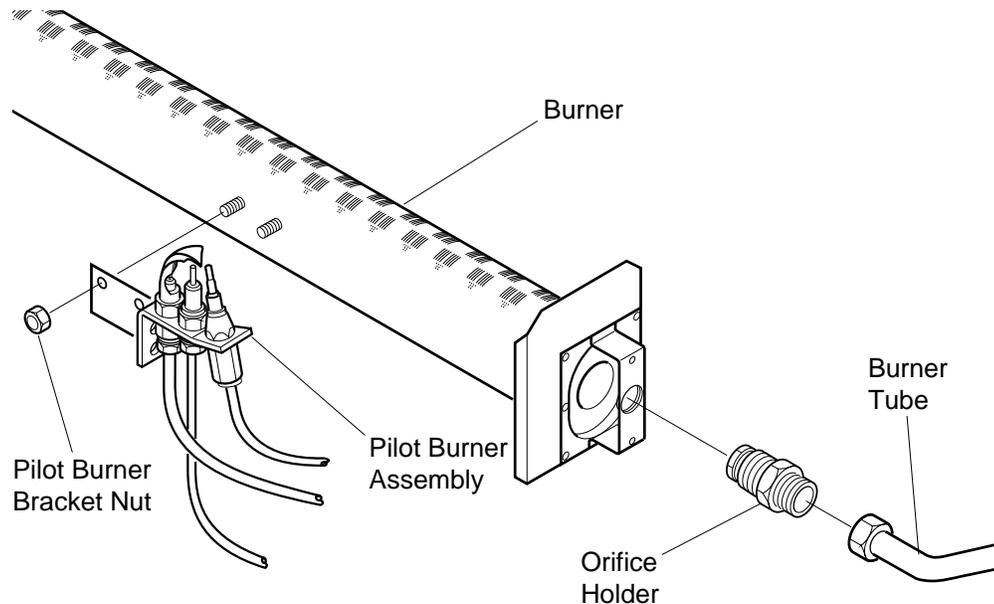

Figure 23- Removing Burner Tube, Orifice Holder, and Pilot Burner Assembly (35,000 BTU/Hr Burner Shown)
3. Disconnect burner tube from orifice holder (see Figure 23).
4. Remove orifice holder from burner (see Figure 23).
5. Remove pilot burner bracket nuts and remove pilot assembly (see Figure 23).